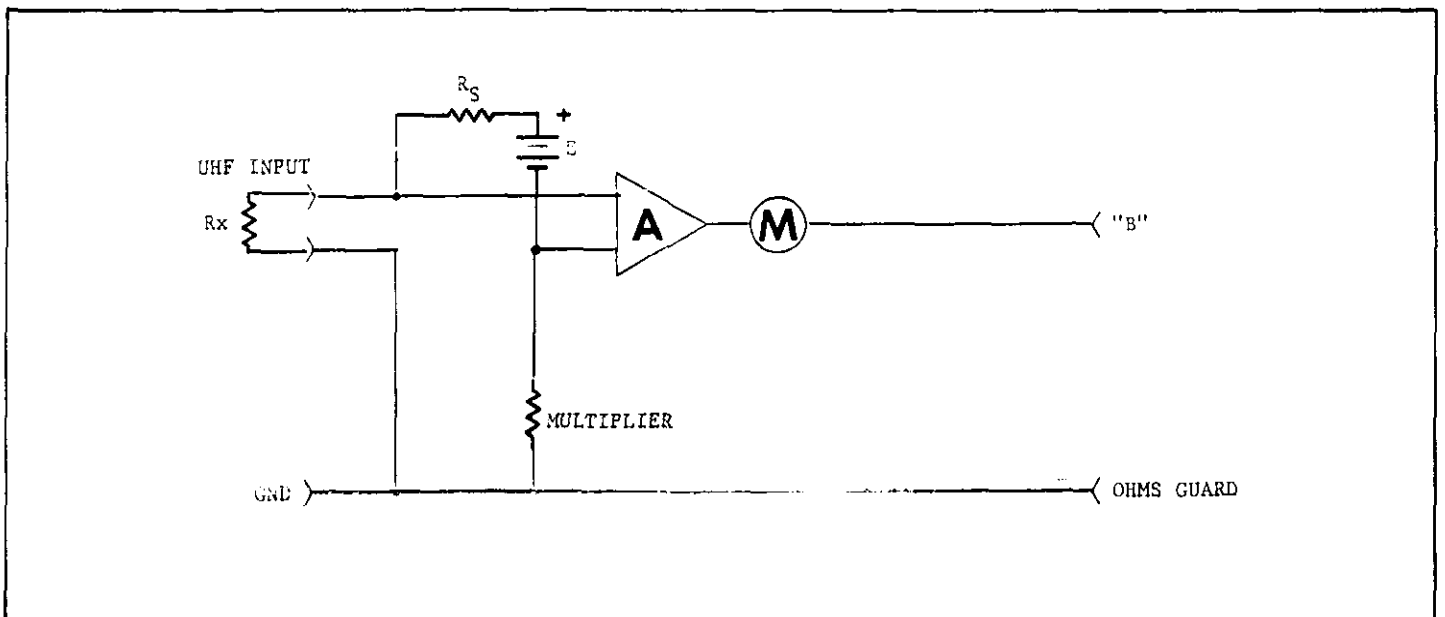

FIGURE 11. Block Diagram of Normal Mode Ohmmeter.
a. Normal Method. In the normal method of resistance measurements (FEEDBACK Switch in NORMAL position), the Model 600B uses a constant-current, voltage-drop circuit. Refer to Figure 11.  $R_x$  is the unknown resistor. A voltage source, E, applies a potential across  $R_x$ . The source is obtained from the batteries through the resistor divider network, R128 through R130. E varies depending upon the OHMS range used. The voltage source is connected between floating ground and the input gate of Q115 through  $R_s$ , the range resistor.  $R_s$  is one of the resistors, R136 through R146. I is equal to  $E/R_s$ , regardless of the value of  $R_x$ , as long as the voltage drop across  $R_x$  does not exceed the Multiplier Switch setting. This circuit provides a true source regardless of the input. The Model 600B can then measure the voltage drop across  $R_x$  and indicate the resistance value on its calibrated meter.
b. Guarded Method. In the guarded method of resistance measurements (FEEDBACK Switch in FAST position and the sample resistance connected between the INPUT Terminal, J102, and the GUARD Terminal), feedback is applied through the sample. Refer to Figure 11. The circuit is similar to the normal method, except for